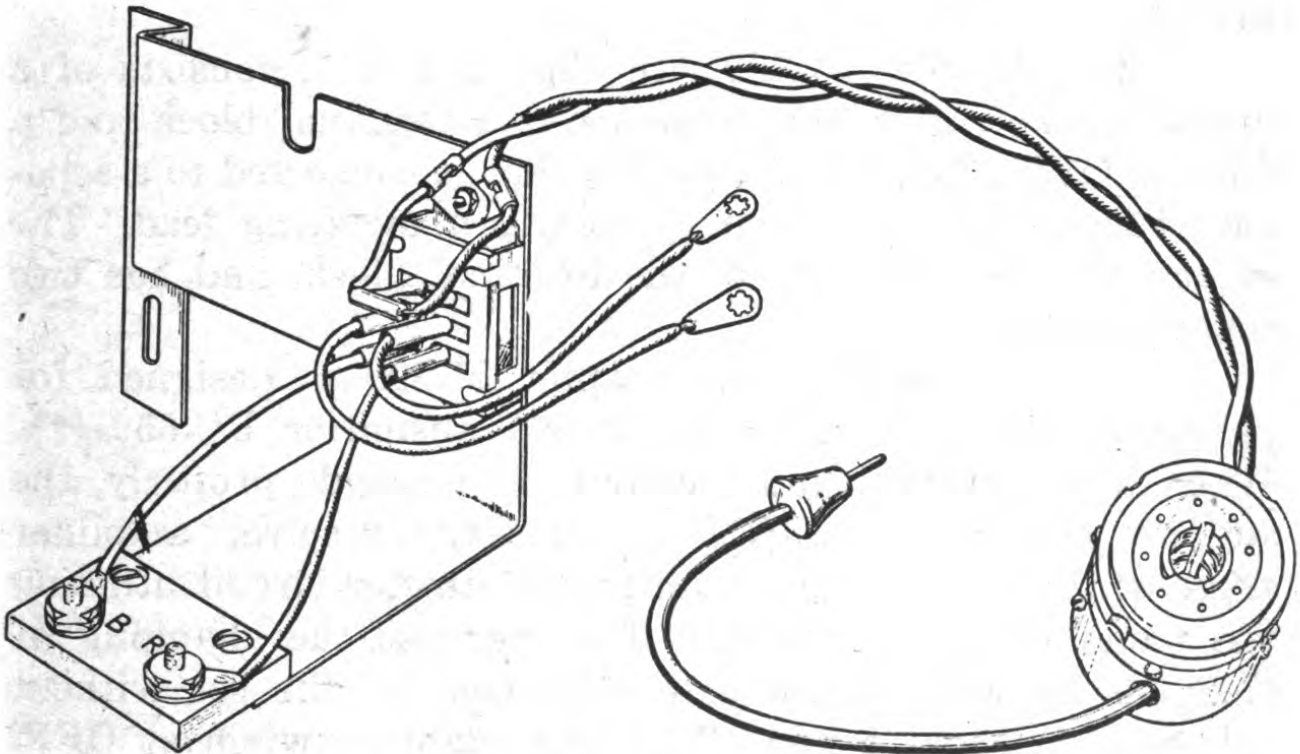

FIG. 3—ADAPTER M-394, BOTTOM VIEW
(1) Take the receiver-transmitter from its case, by removing all the screws around the edge of the panel and pulling the chassis forward.
(2) Use a $\frac{5}{16}$ " open-end wrench to disconnect the two leads attached to the panel meter of the set, and then connect these leads to terminals B and R of Adapter M-394, Fig. 3, attaching the red lead to R.
(3) Take the two separate leads of Adapter M-394, Fig. 3, and connect them to the meter terminals, attaching the red lead to the meter terminal nearest transformer T₆.
(4) Remove the two screws from the edge of the top cover of battery Box BX-4 that contains Battery BA-41, and mount the bracket of Adapter M-394 there, using the original screws.